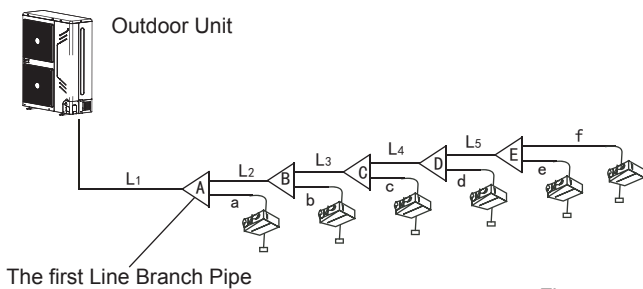
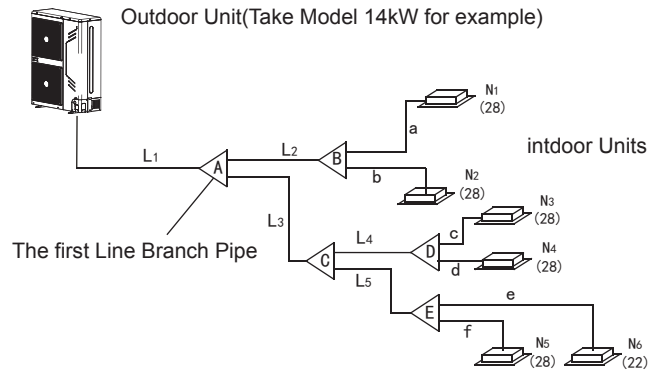
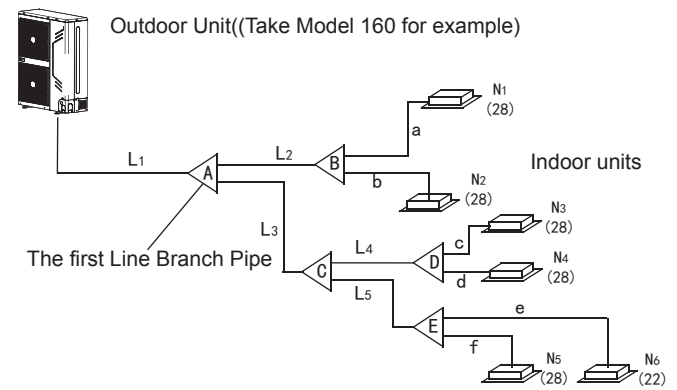
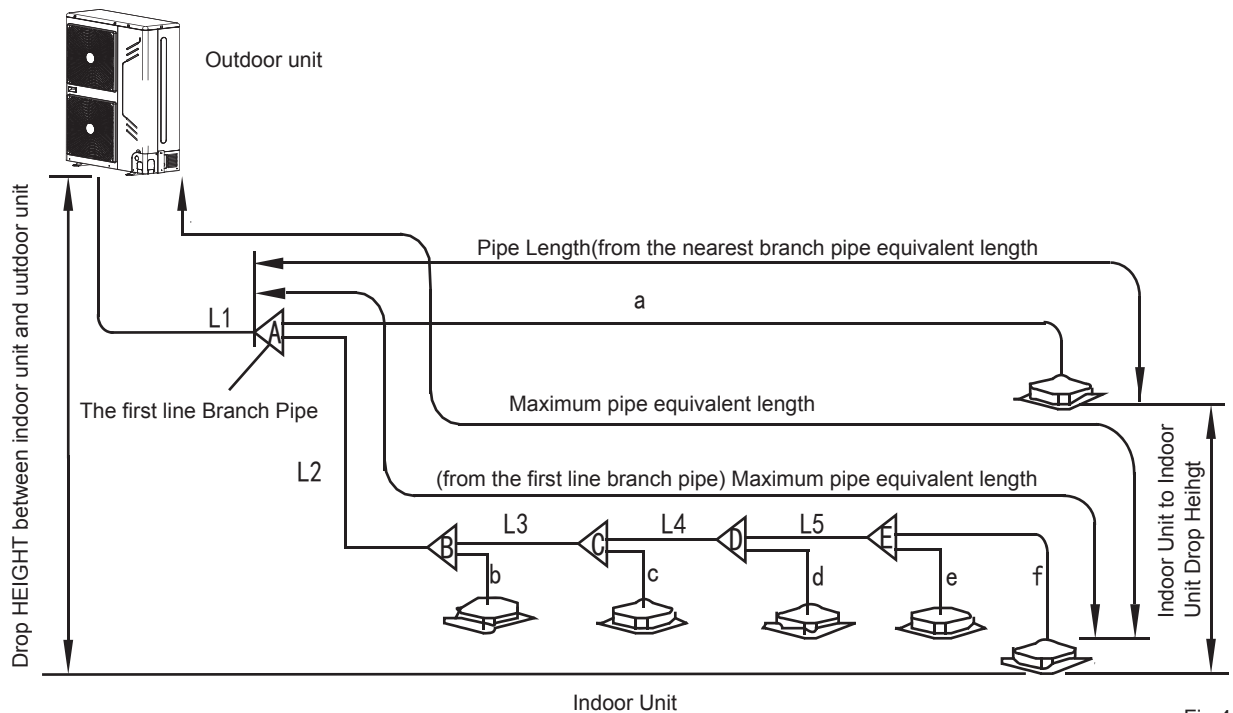

Fig. 4-4
Fig. 4-5
Fig.4-6
Fig.4-7
- 2) Example 1: In the Fig.4-5, The downstream inner units of the L2, and its total capacity is  $28 \times 2 = 56$ , refers to the Table 4.4, the air/liquid side of L2 is:  $\Phi 15.9/\Phi 9.5$ .
- Main pipe (Please refer to Fig.4-5 and Fig.4-7)
In Fig.4-6, the main pipe L1, the outdoor unit capacity is 16kW, and check the Fig.4-7 to get the size of gas pipe/liquid pipe is  $\Phi 19.1/\Phi 9.5$ , and also the total equivalent length of liquid side and gas side pipes is  $> 90\text{m}$ , then check the Fig.4-4 to get the size of gas pipe/liquid pipe is  $\Phi 22.2/\Phi 9.5$ , and according to the maximum value principle, it should apply the  $\Phi 22.2/\Phi 9.5$ .